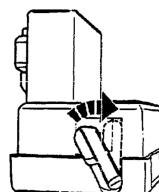

Figure 3
5. Without disturbing the brake pedal, move the black adjustment lever clockwise to adjust the switch. The lever should be parallel to the connector. (Figure 3)